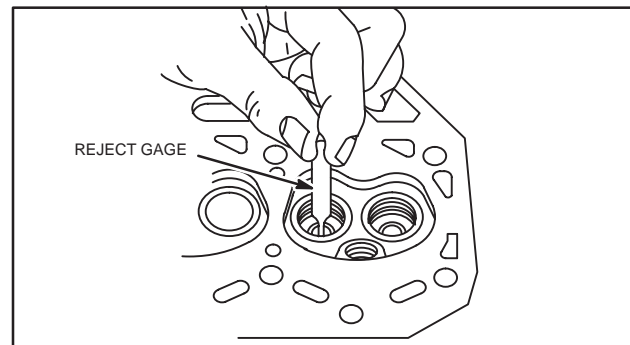

Fig. 14 – Check Valve Guide Bushing
2. Inspect valve guide bushing for damage. Check valve guide bushings for wear using reject gauge, Tool #19382, Fig. 14.